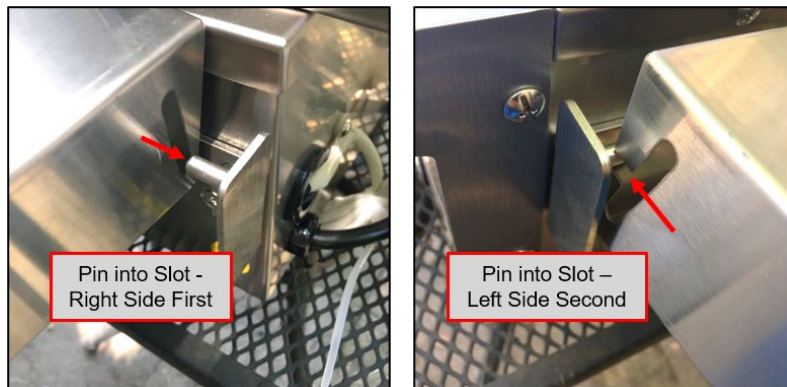

Figure 25 Fit Shelf to Brackets
4. Position the shelf to insert the right-side bracket pin into the straight slot (Figure 25 left), and the left-side bracket pin into the T slot on the left shelf (Figure 25 right)